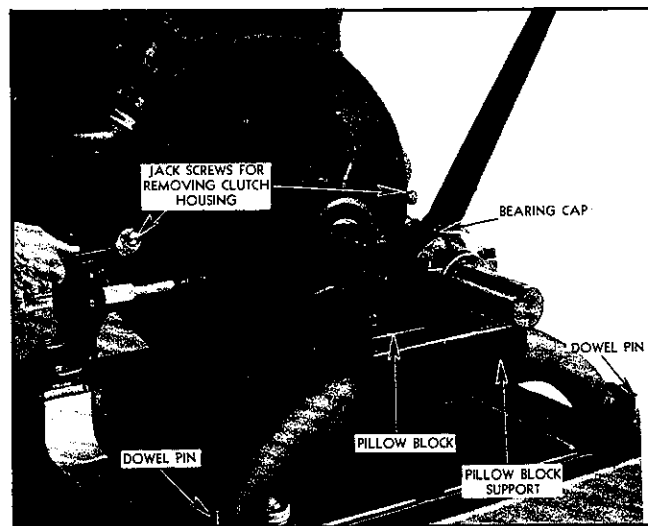

Fig. 4—Removing Clutch Housing from Flywheel Housing.
2. Remove the cap screws which attach the clutch housing to the flywheel housing. Since the clutch housing pilots into the flywheel housing, considerable force may be necessary to separate the former from the latter. To facilitate separation of the two housings, two $\frac{1}{2}$ "-13 cap screws may be screwed into holes provided in opposite sides of the clutch housing flange. Turning the screws down evenly to bottom on the flywheel housing, as shown in Fig. 4, will separate the two pieces.
1. Remove the bearing cap from the pillow block. (See Fig. 4.)